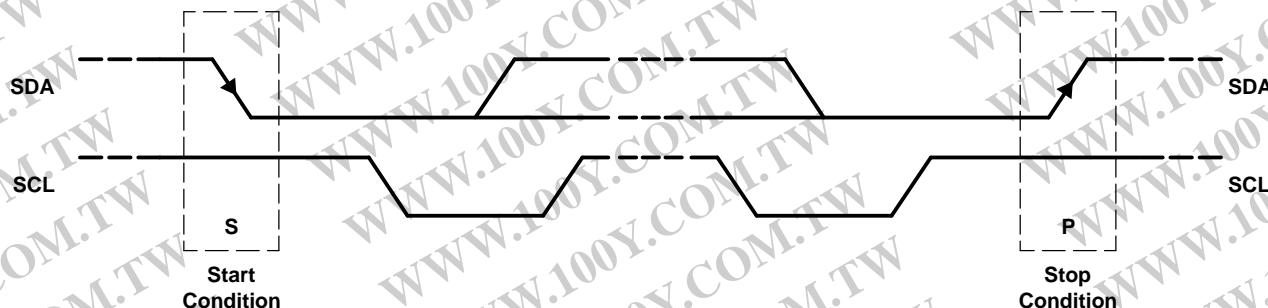

Figure 41. START and STOP Conditions
- The Master initiates data transfer by establishing a *Start* condition. The *Start* condition is defined when a high-to-low transition occurs on the SDA line while SCL is high, as shown in Figure 41. The byte following the start condition is the address byte consisting of the 7-bit slave address followed by the \bar{W} bit.